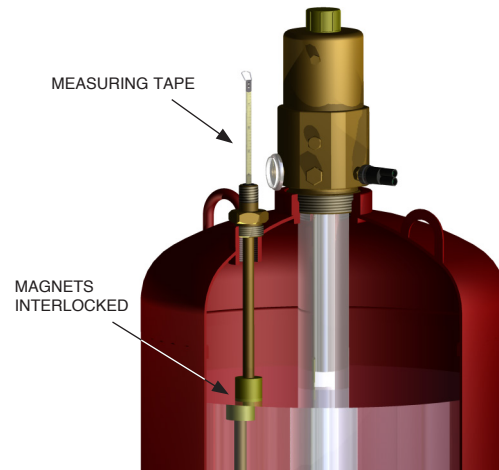

FIGURE 7-1
2. Lift the measuring tape to the end (or approximately 75 mm (3 in.) above the expected level). Slowly lower the tape until a magnetic interlock is felt (see Figure 7-1).